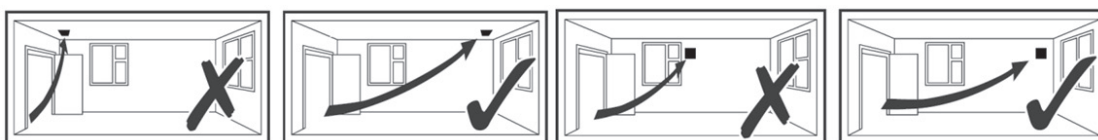

Fig.1: QF100SX5CON
1. Select and follow the appropriate wiring diagram. (Fig. 1, 2 or 3)
See Fig 1, 2, 3, 4, 5, & 6
– Single speed fan. Controlled by remote switch (e.g light switch or auto sensor) Fig.1.
QF100SX5CON – Single speed fan. Controlled by remote switch (e.g light switch or auto sensor) Fig.1.